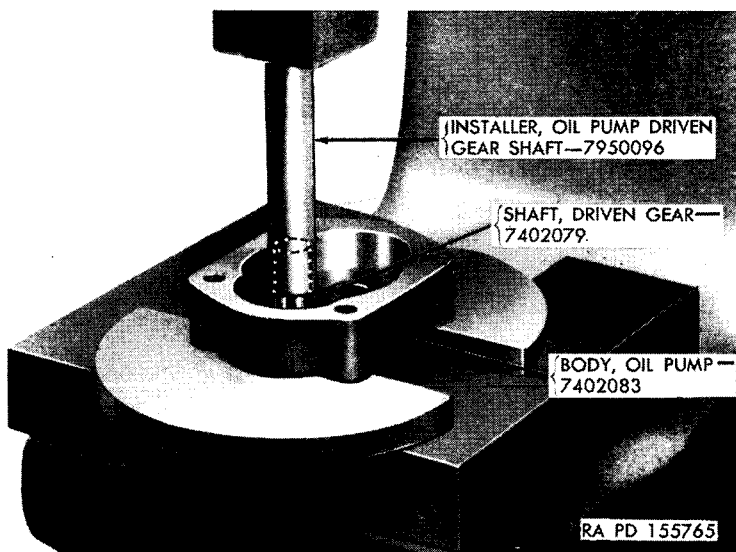

Figure 55. Installing oil-pump-driven-gear shaft in pump body.
a. Support oil-pump body on bed of arbor press, cavity side up (fig. 55). Locate driven gear shaft in bore of housing and press shaft into position using oil-pump-driven-gear-shaft installer 7950096 (figs. 10 and 55).